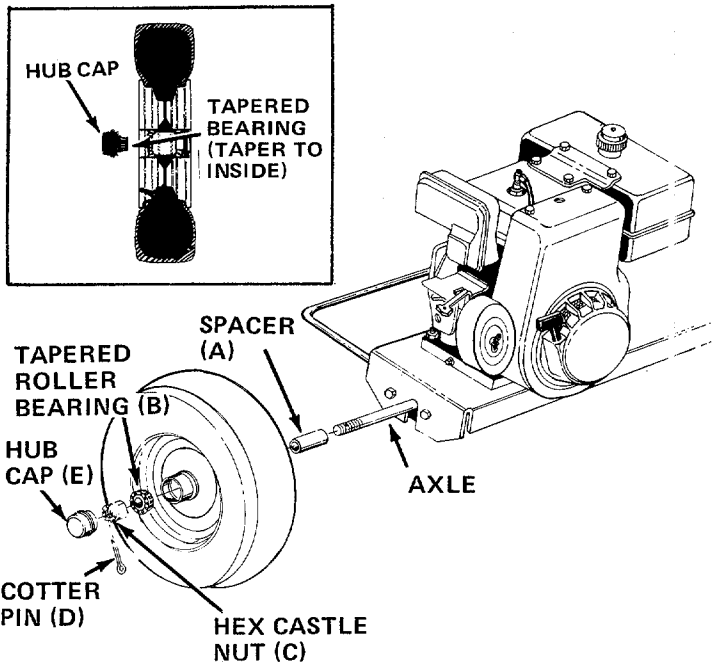

FIGURE 3
4. Place one spacer (A) on the axle, then one wheel and a tapered roller bearing (B). See figure 3.
5. Thread hex castle nut (C) on axle. Tighten castle nut until snug, then back off approximately 1/3 turn or until one of the slots on the castle nut lines up with hole in axle. Secure castle nut to axle with cotter pin (D). See figure 3.